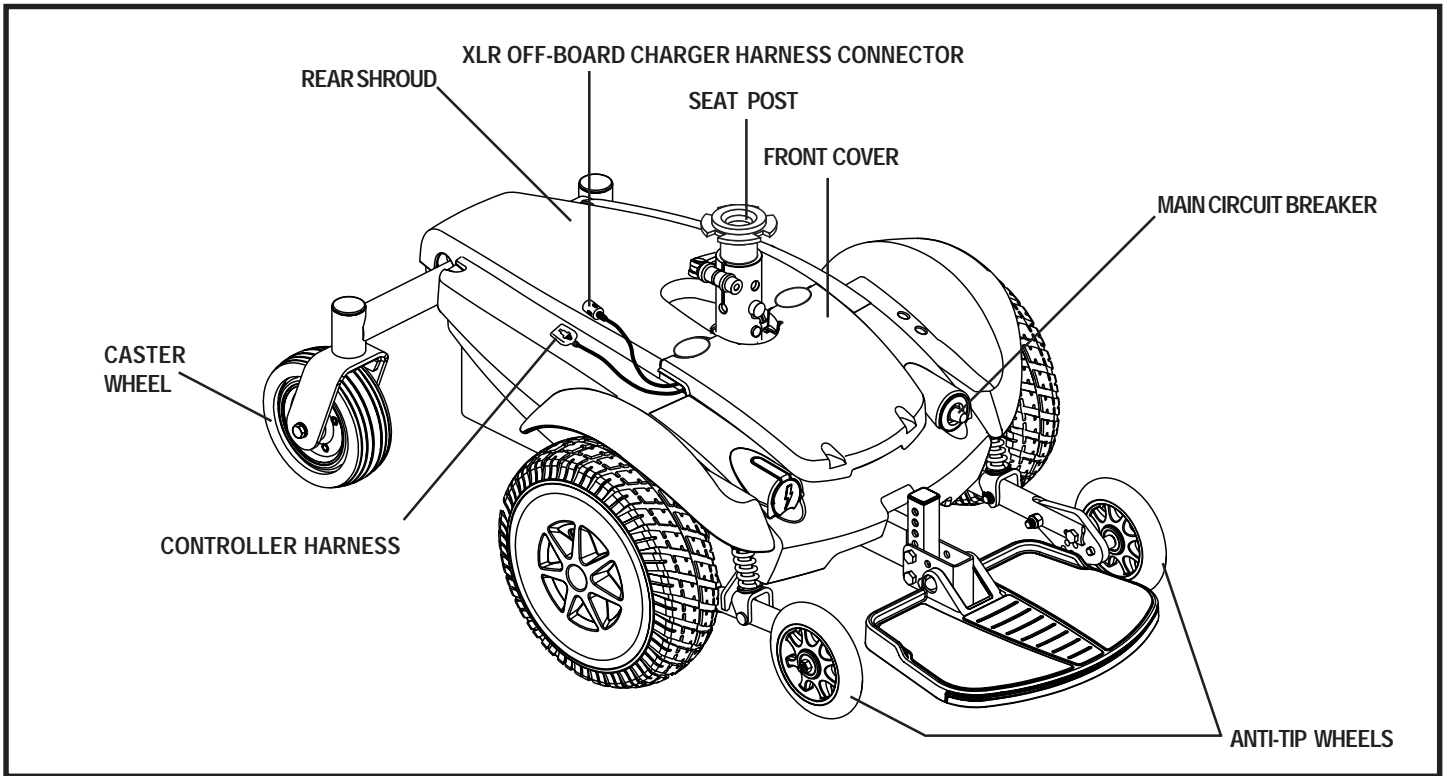

Figure 6. The Jazzy Select Power Base
The electrical components are located either on or inside the power base. The main circuit breaker is located on the front of the power base. The power module is located under the front cover. See figures 6, 7, and 8.
5. Plug the controller and XLR cables into the connectors on the power base. See figure 6, 7, or 8.